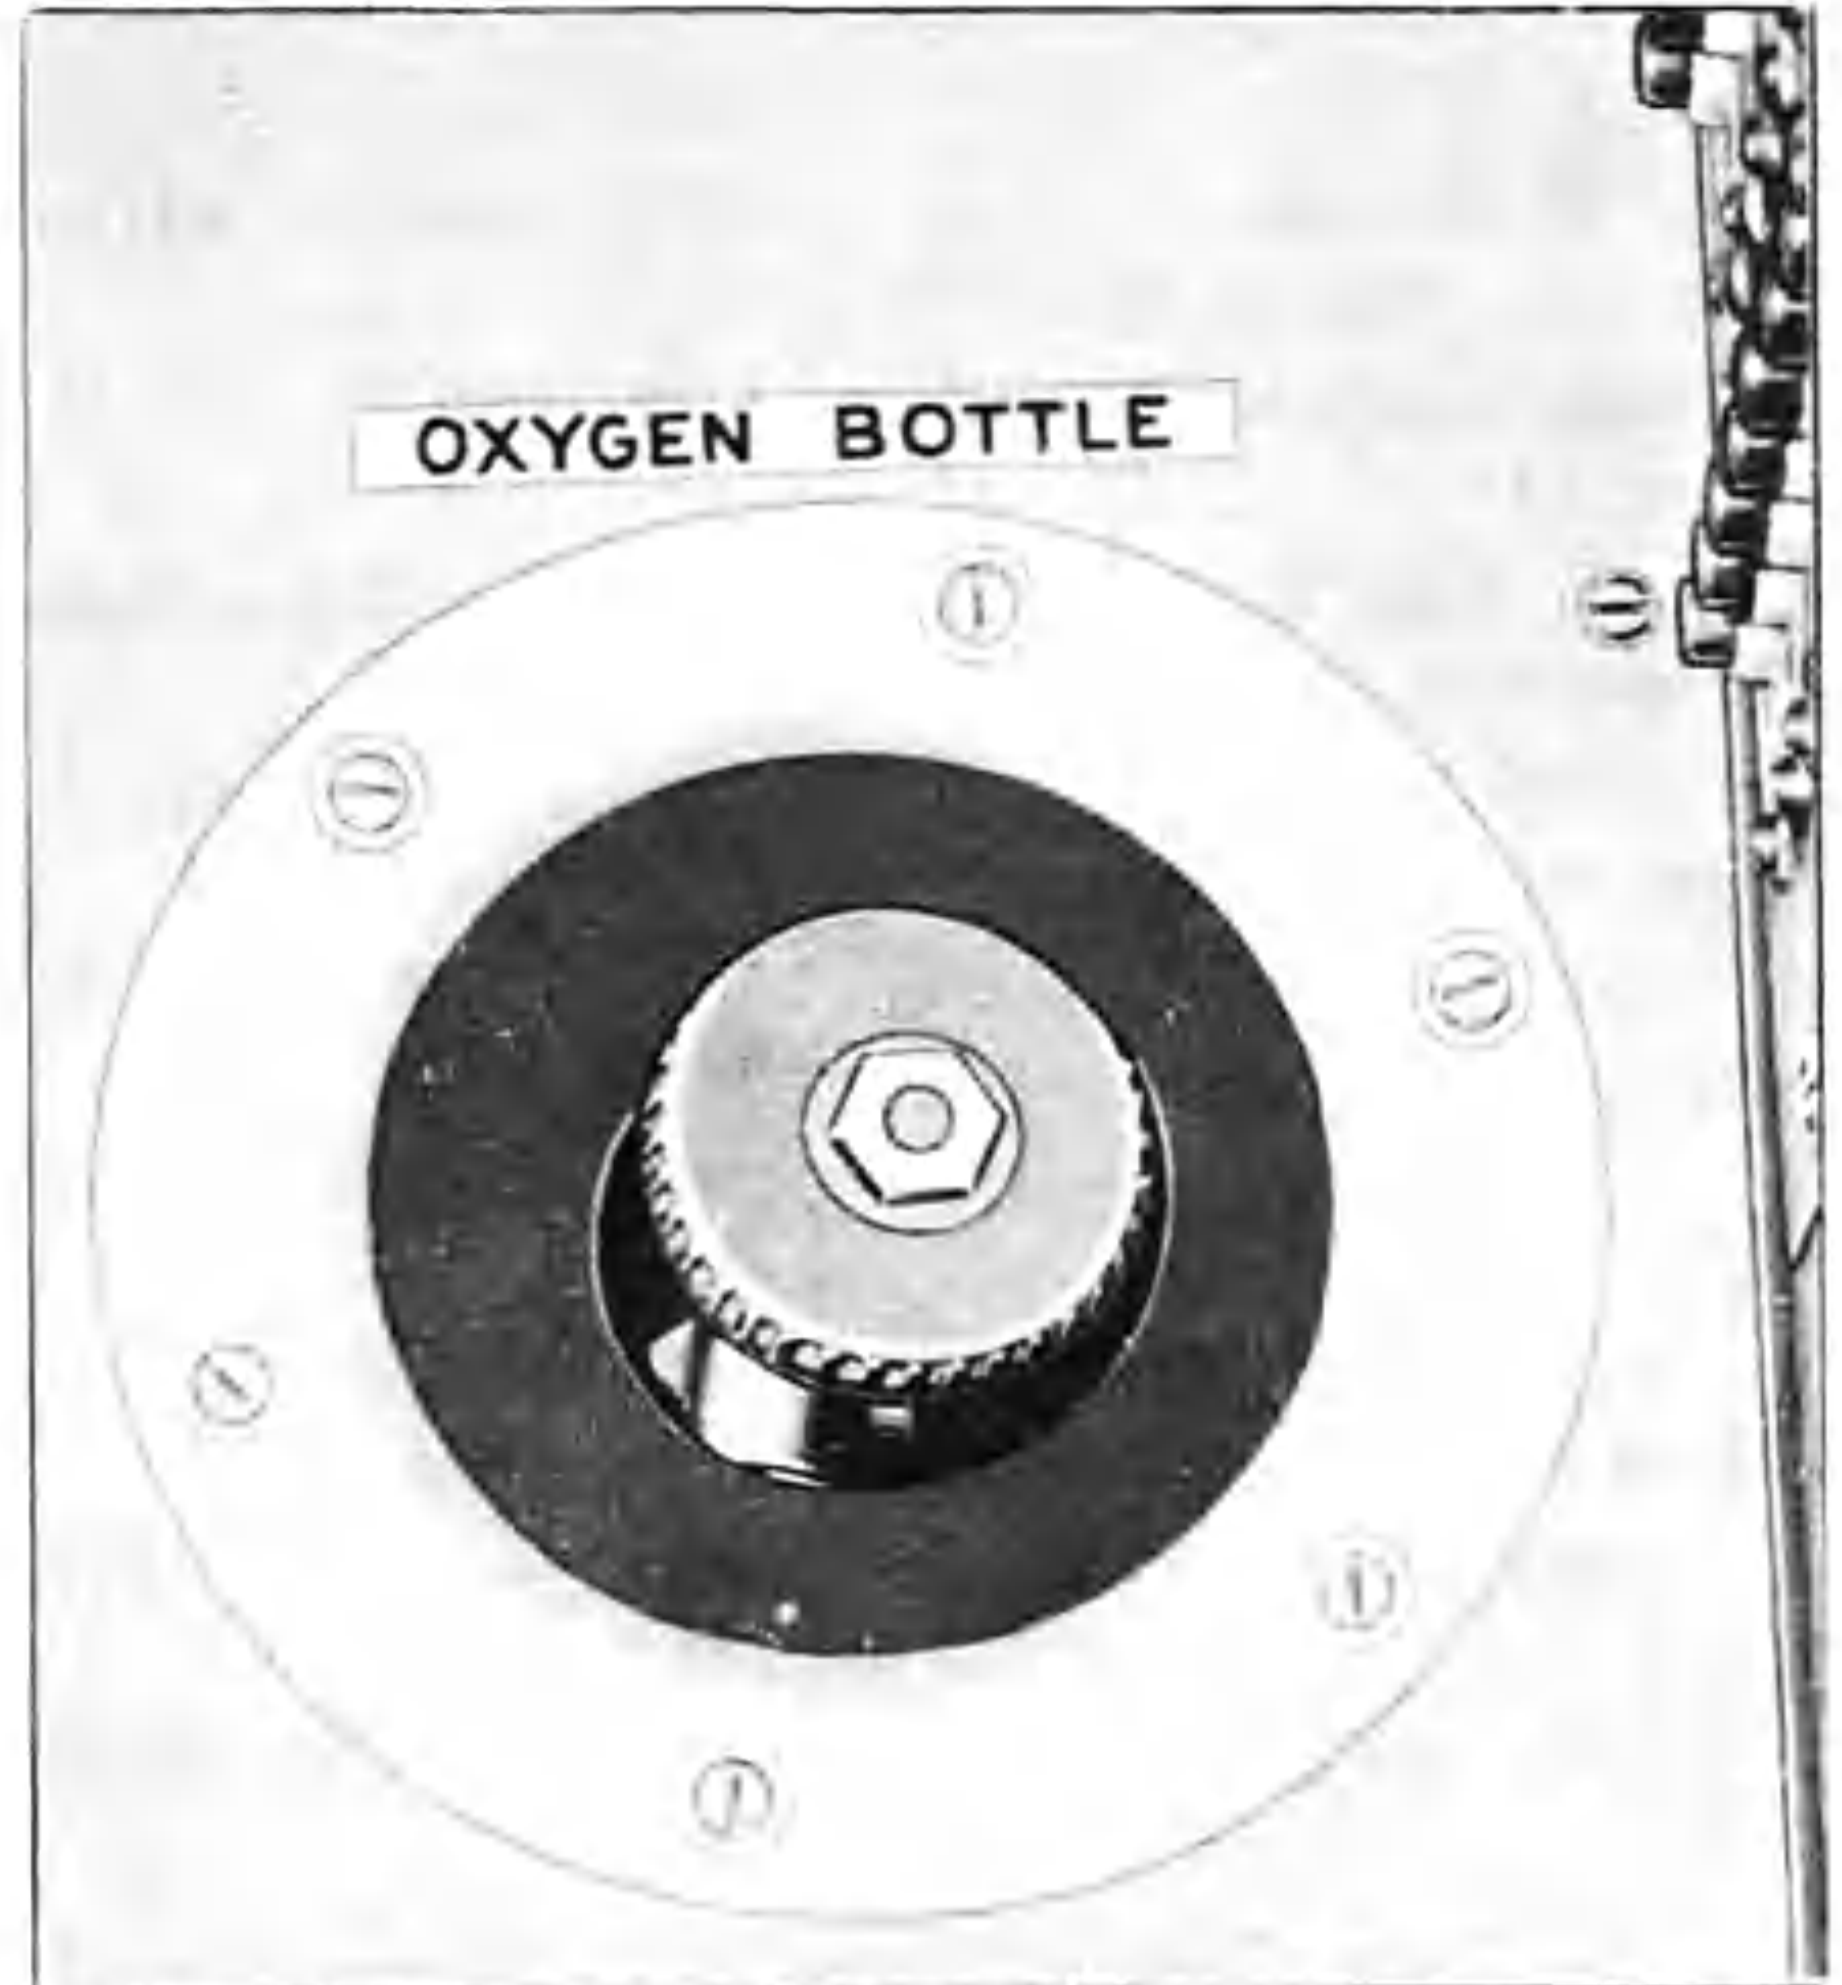

Figure 29 — Oxygen Bottle Valve
(5) Oxygen bottle valve closed. (See figure 29.)